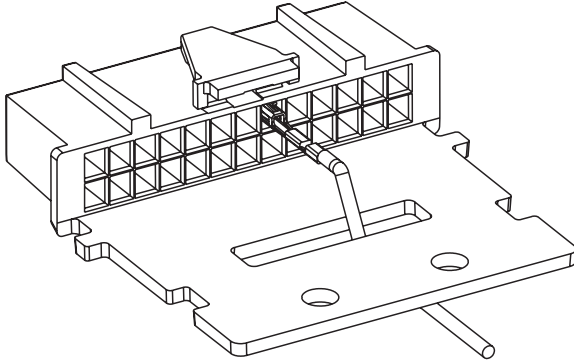
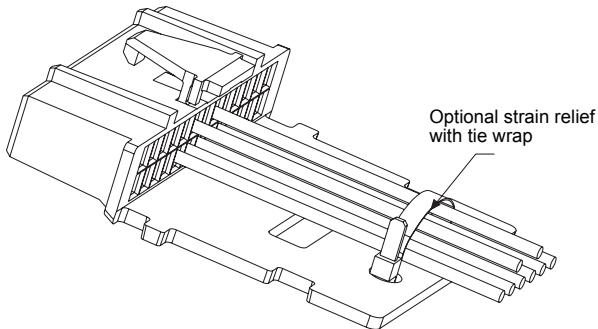

Figure 3a. Wire Strain Relief
Figure 3b. Optional Strain Relief
Step 1. Route wires through connector as shown in Figure 3a, or for applications with multiple accessories connected to the mobile radio, route wires as shown in Figure 3b and use the cable tie to secure wires to the connector.